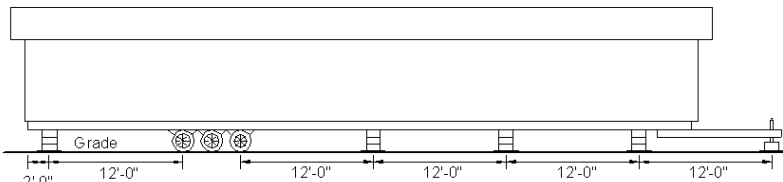

Figure 1. Supporting a home for display. Pier spacing is given as an example
- Locate the first pier no further than two feet from the rear end of the home (Figure 1). Place additional piers along the perimeter on either side of openings greater than four feet (i.e. sliding glass doors, bay windows, etc.).